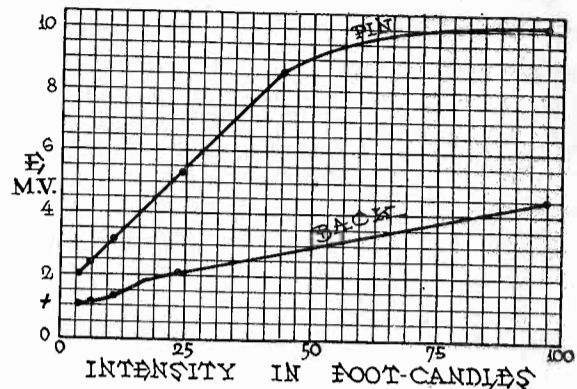

Fig. 1. Voltage-Illumination Curves for Photovoltaic Cell Whose Plates Are Designated as "Pin" and "Back"
**Photovoltaic Potential:** The voltage illumination curves (Fig. 1) indicate that the potentials are proportional to the incident illumination; the apparent deviations from this generalization are doubtless due mainly to the difficulty of measuring closely the distance of the illuminated plate from the source at